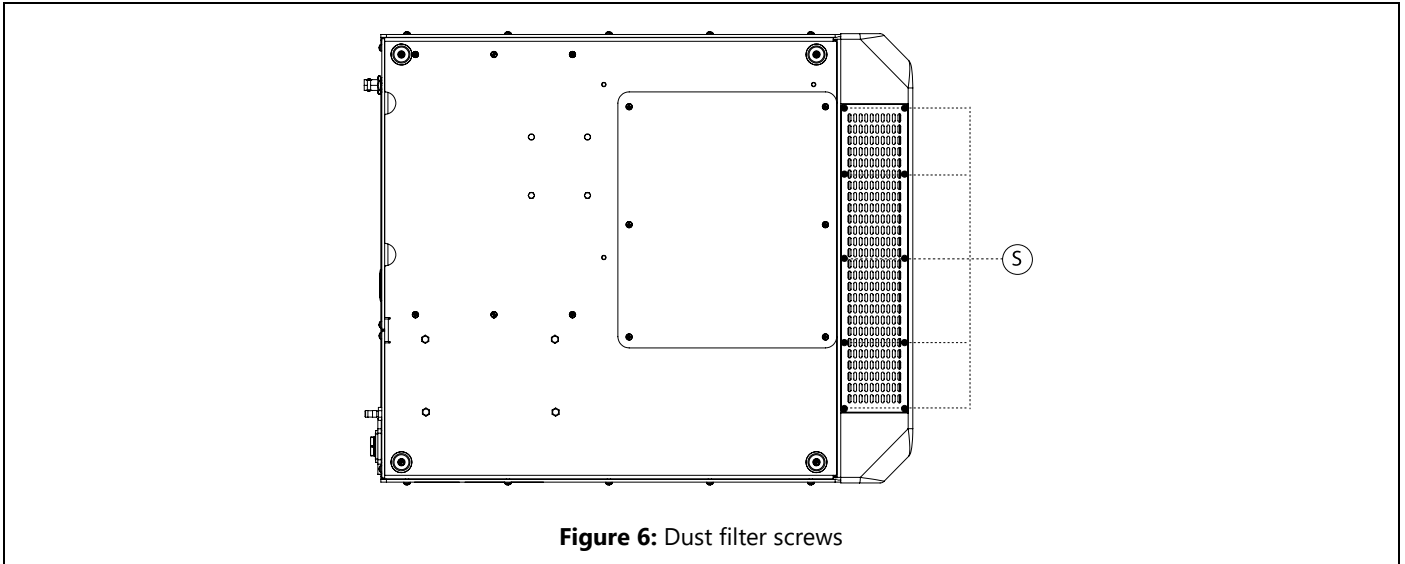

Figure 6: Dust filter screws
4. Remove the dust filter support unscrewing the screws S (Figure 6). Repeat this action for all Module dust filters;
7. Place back the dust filter within its filter support screwing the screws S (Figure 6). Repeat this action for all Module dust filters.